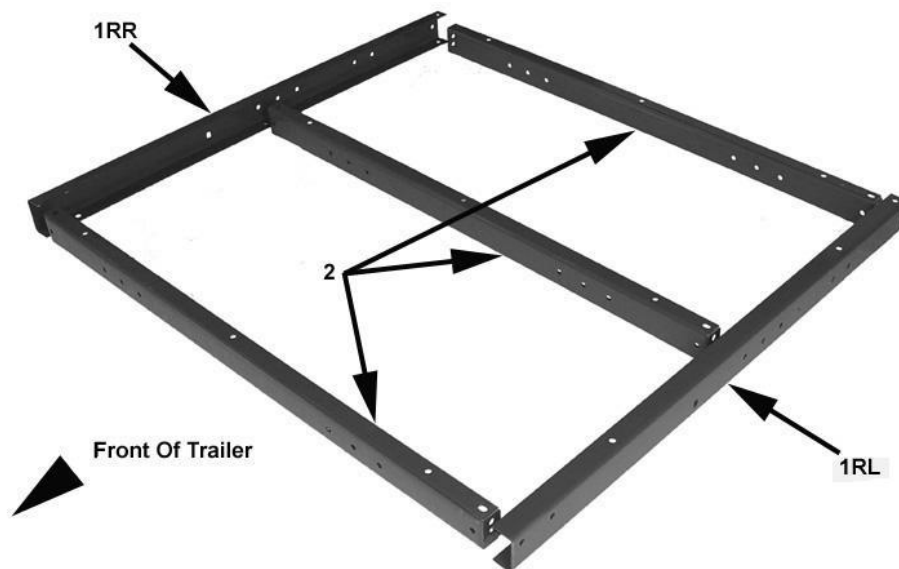

Figure 3-1
1. Lay out the rear side rails (1RL and 1RR) and three cross members (2) as shown. See figure 3-1.